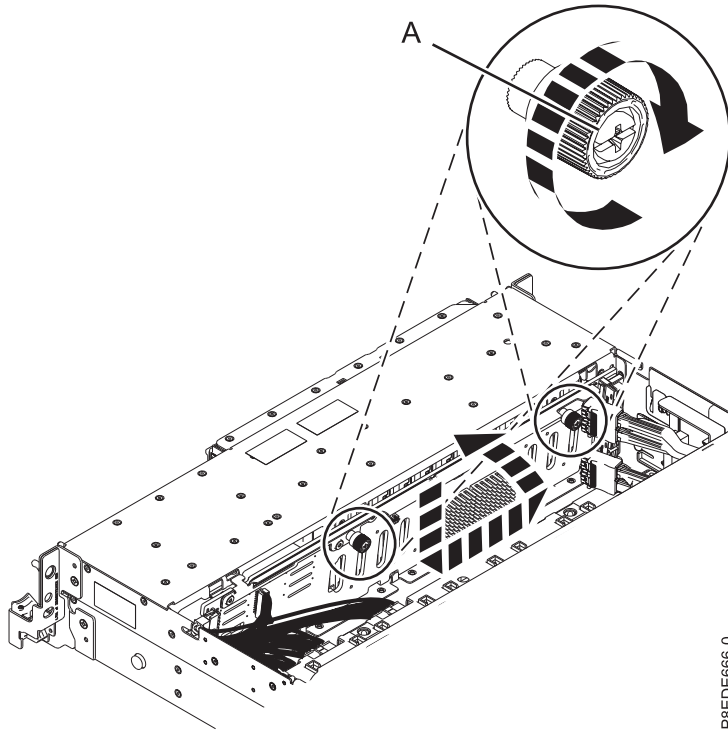

Figure 209. Replacing the disk drive backplane
- c. Shift the backplane slightly to the left to secure it in place, as is shown in Figure 209 on page 206.